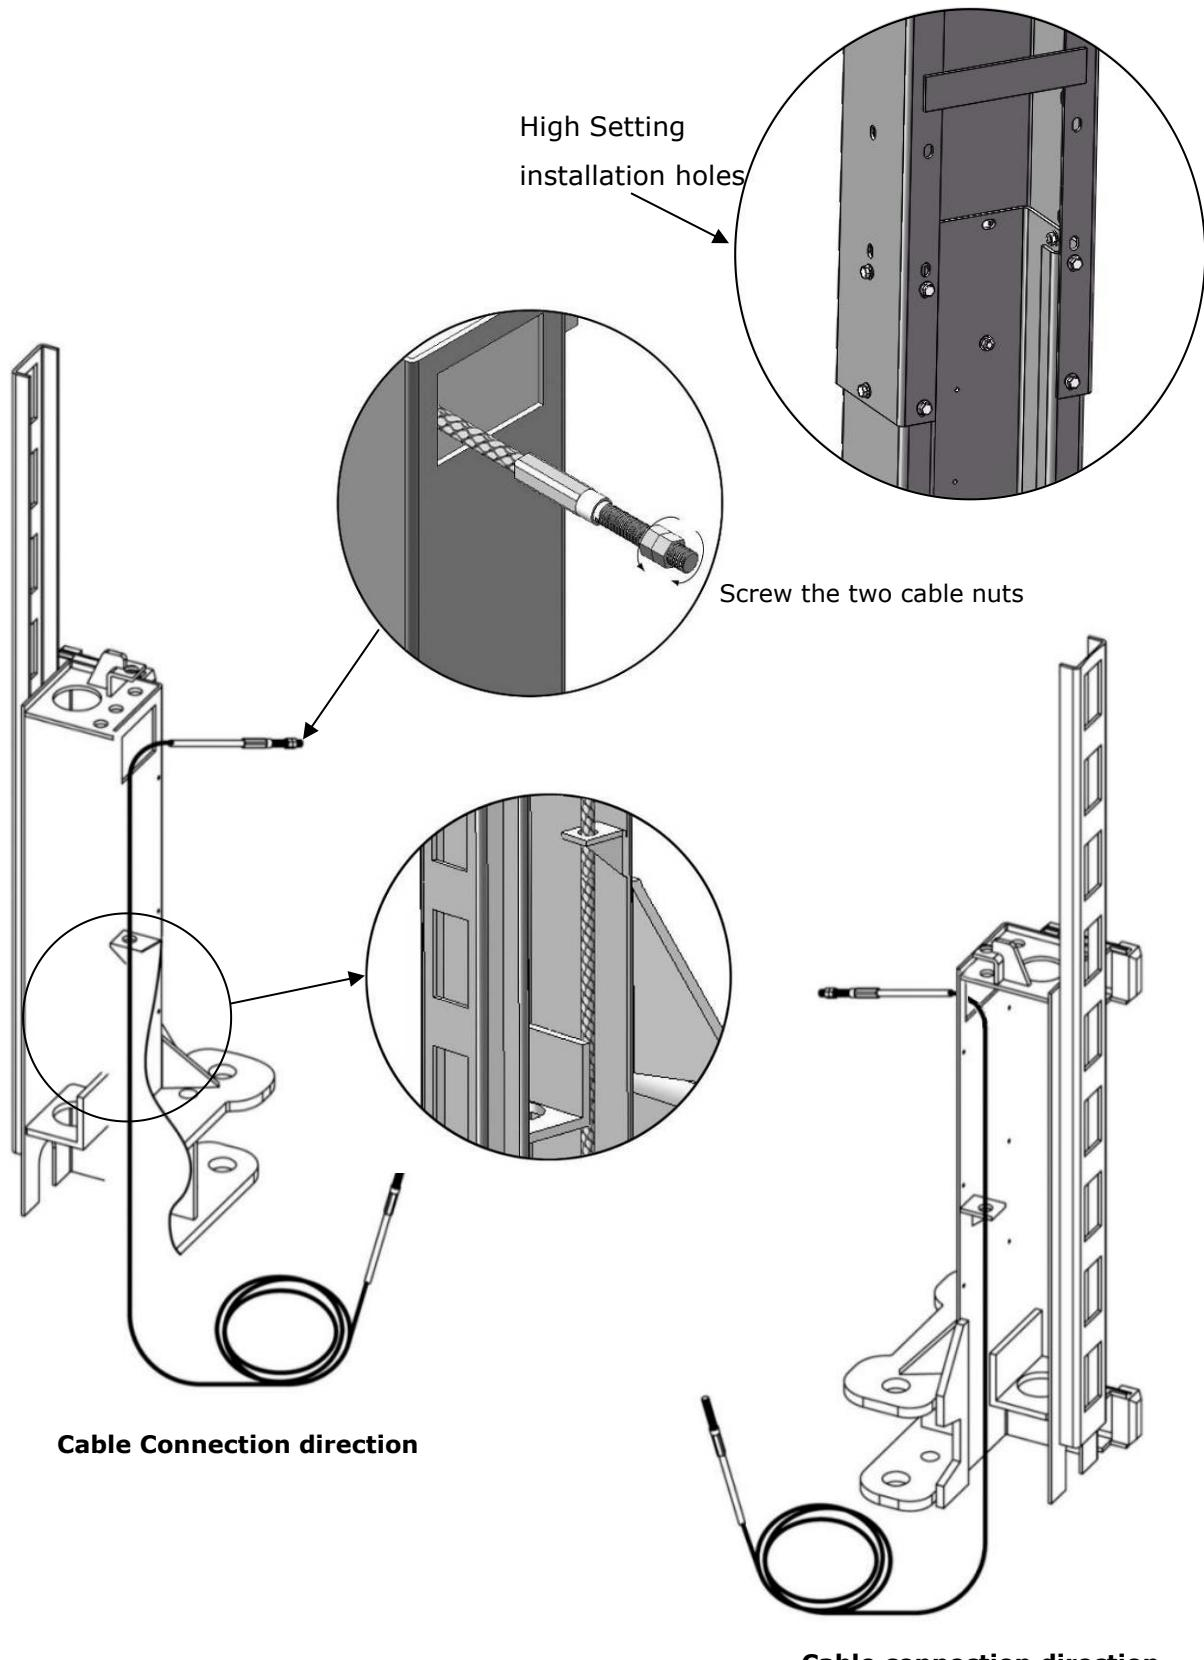

Fig. 25
2.1. Run the cable across from the bottom of the carriage and pull it out from the hole of carriage, then tighten two cable nuts. (See Fig. 25).